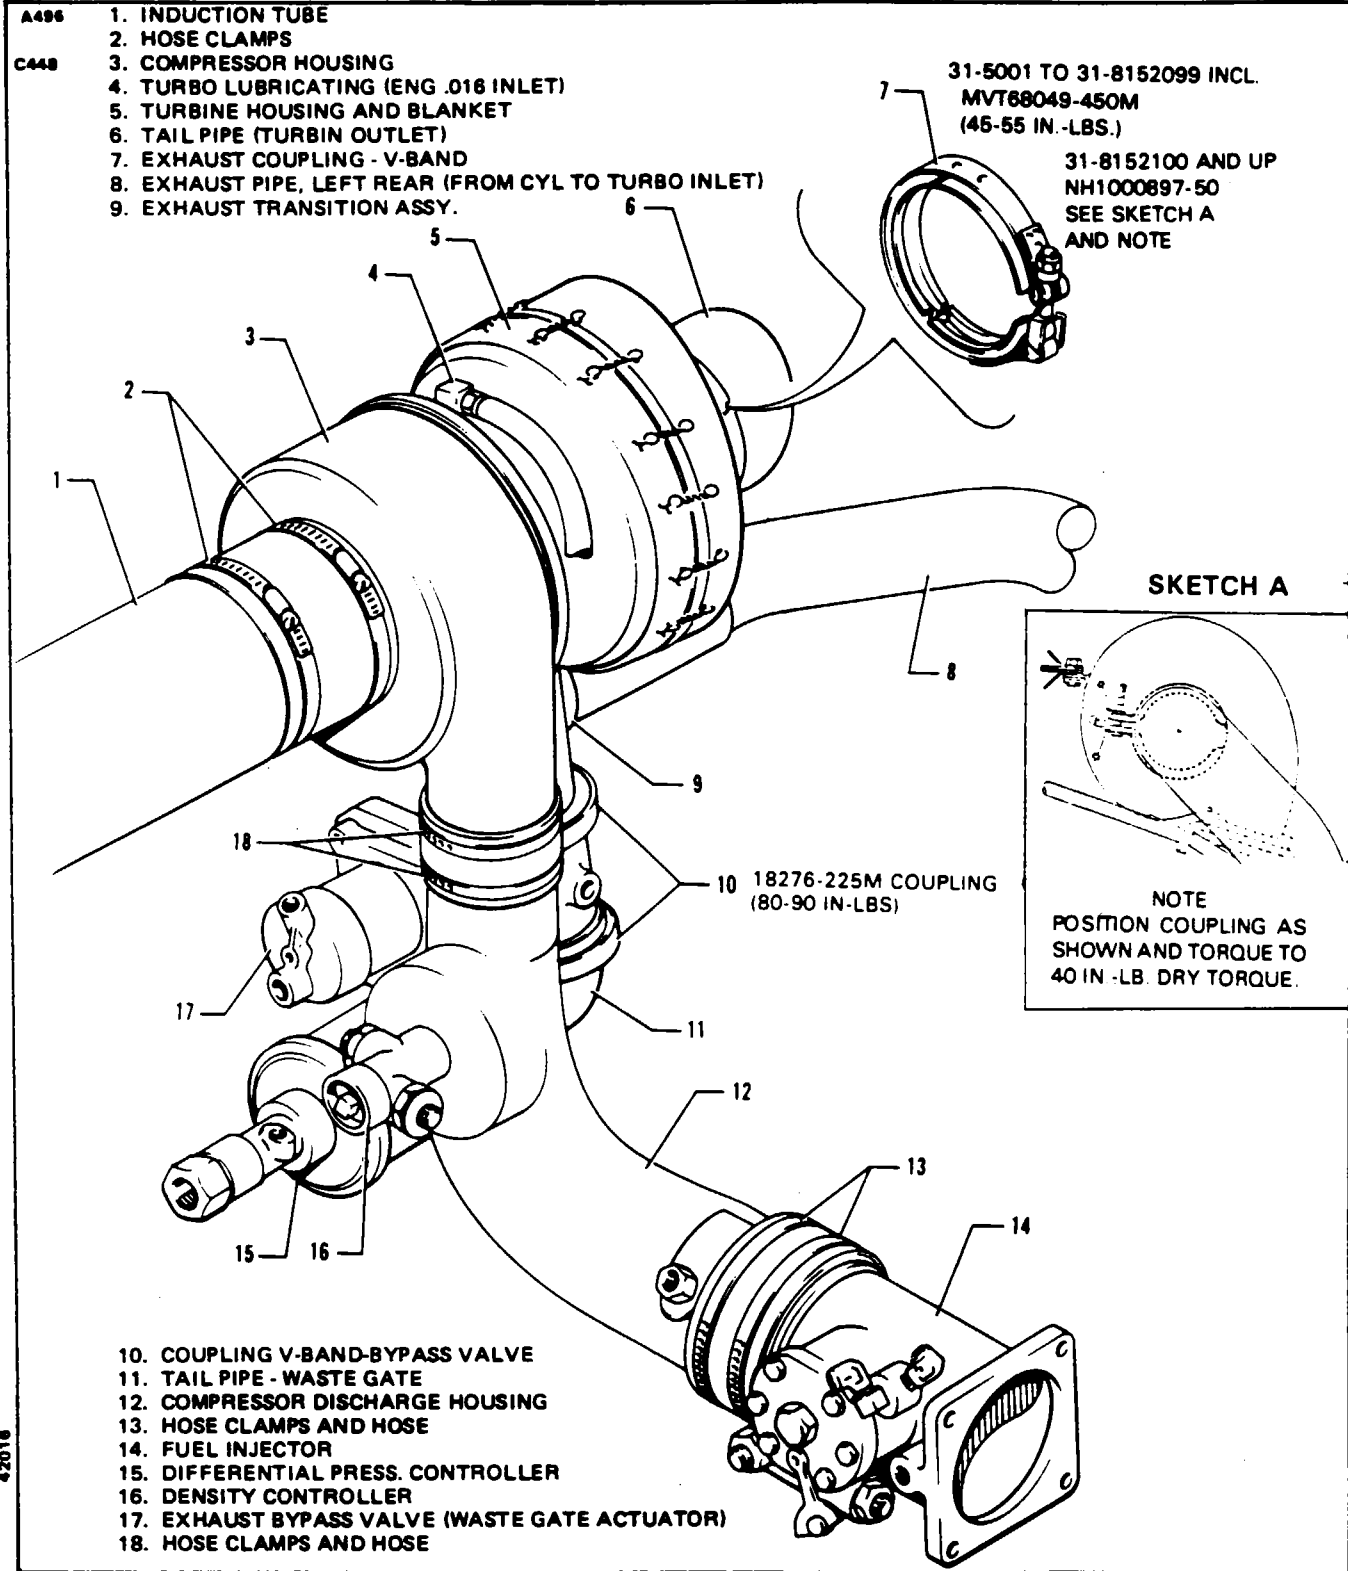

Figure 8-8. Turbocharger Installation - PA-31-350
8-50. EXHAUST WASTEGATE VALVE SETTINGS. (Refer to Figure 8-8.)
The butterfly valve in the exhaust wastegate assembly is set to a predetermined open and closed clearance. A table of these clearances is given in Figure 8-8 for the specific engine being worked on. With 50-60 psi pressure in the wastegate cylinder adjust the closed position (A) of the valve so that clearance between the butterfly and side of housing is in accordance with specifications given in Figure 8-8. After adjusting the closed position and with no pressure in the wastegate cylinder, adjust the full open (B) position by adjusting the stop screw to provide the specified clearance between the valve and the side of the housing with backlash taken up towards the open position.